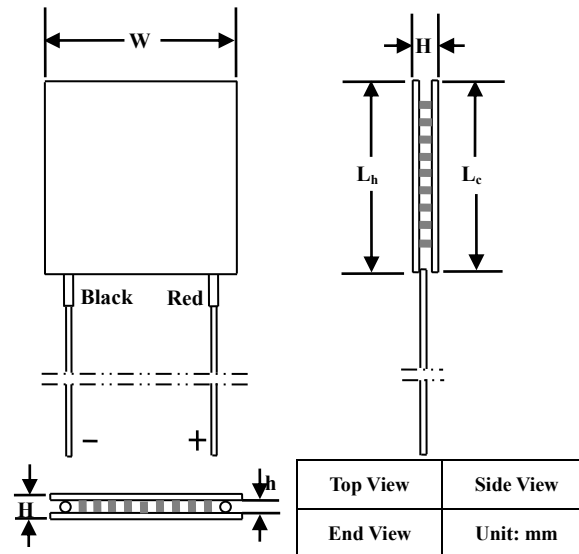

Figure 13. Mechanical Dimensions of Non-sealed ATE1-TCHE-71
The ATE1-TCHE-71 TECs come with 2 insulated lead wires. The positive wire is coated red, and the negative wire is coated black. The mechanical dimensions are shown in Figure 13 and Table 2.
**Note:** As Figure 13 shows, when the red lead wire is on the right, then the top surface is the cold side of the TEC.